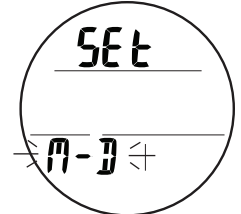

Fig. 24 - SET DATE FORMAT
**Set Date Format**, information includes (Fig. 24):